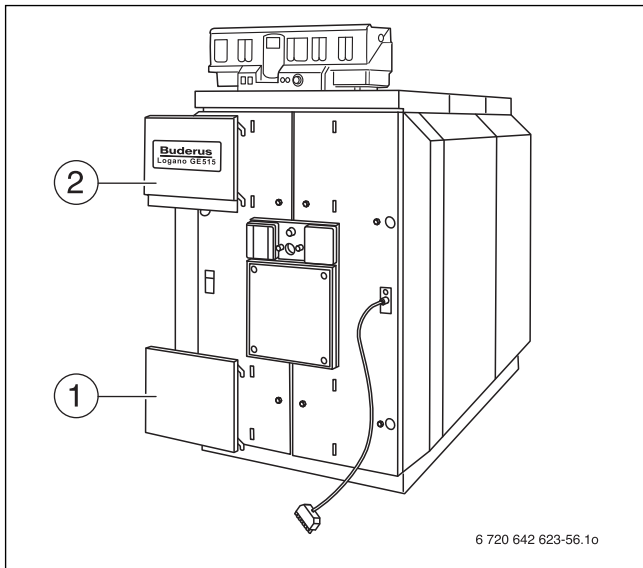

Fig. 58 Attaching the burner door panels
- ▶ Attach the burner door panels to the burner door cladding (→ Fig. 58, [1 and 2]).